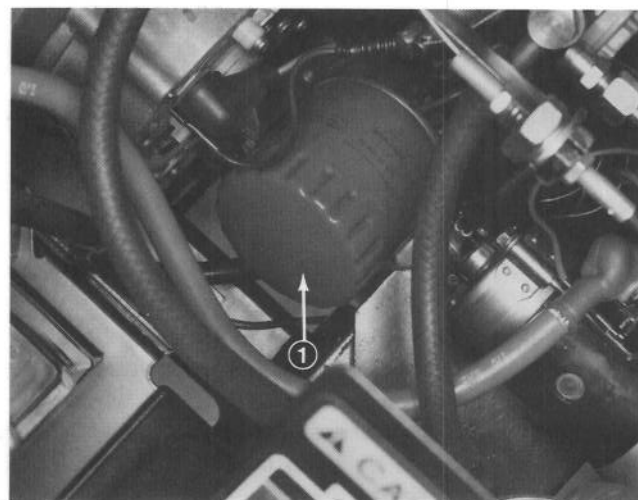

Figure 41
2. Remove oil filter (Fig. 41). Apply a light coat of clean oil to the new filter seal before screwing it on. DO NOT OVER-TIGHTEN.